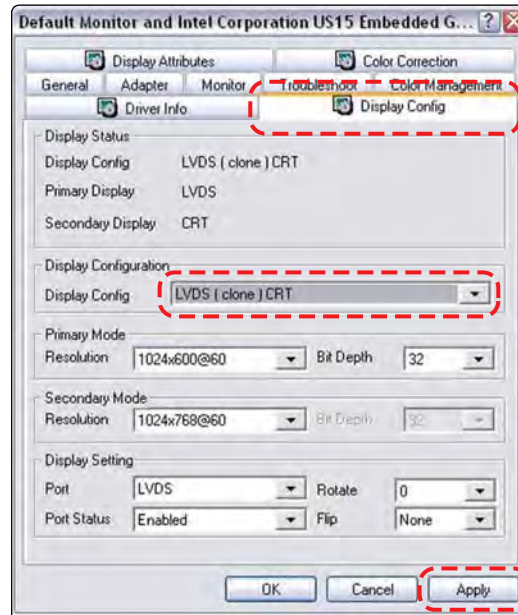

Figure 16-5 Sample Display Config tab
4. From the Display Config tab, select LVDS (clone) CRT from the Display Configuration dropdown menu (Figure 16-5).